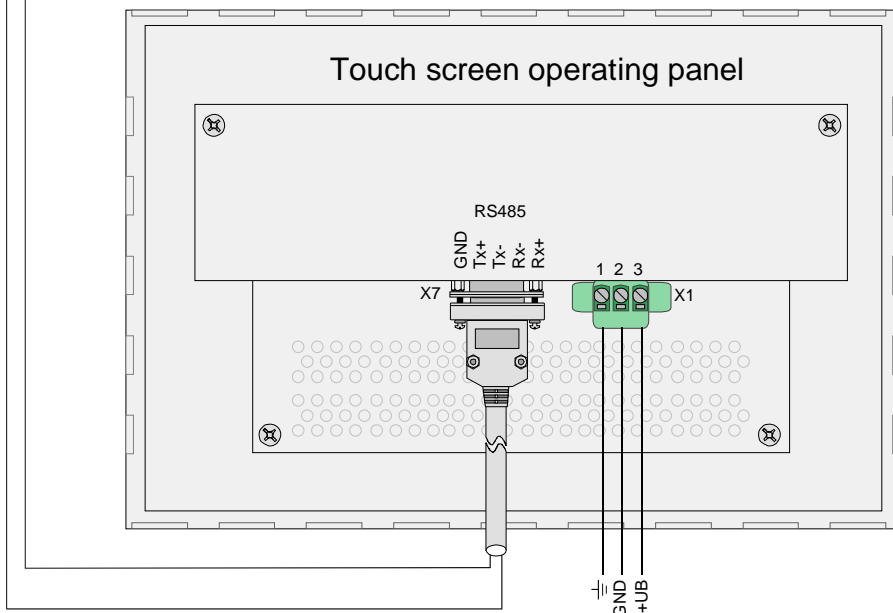

Fig. 12: Touch screen operating panel connected to RS485-1 (example)
- Affix the enclosed clamp-on ferrites ① as shown in Fig. 12 to both connection cables.